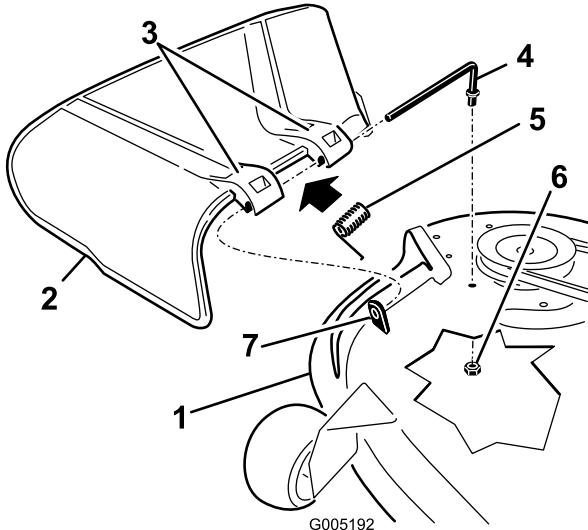

Figure 70
1. Remove the nut (3/8 inch) from the rod under the mower (Figure 70).
2. Slide the rod out of the short standoff, the spring, and the grass deflector (Figure 70).
4. Replace the grass deflector (Figure 70).
7. Slide rod through the second grass-deflector bracket (Figure 70).
9. Secure the rear end of the rod into the mower with a nut (3/8 inch) as shown in Figure 70.